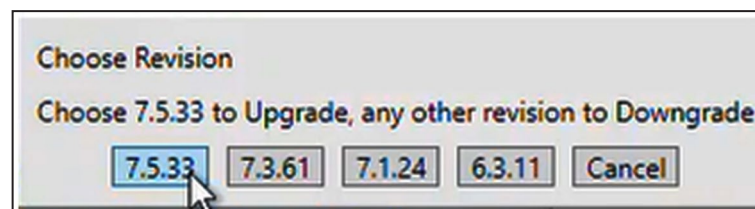

Figure 18. The Choose Revision dialog box for selecting the firmware version.
STEP 6. When the firmware update Choose Revision dialog box appears, select the firmware version to update the control to. See Figure 18.